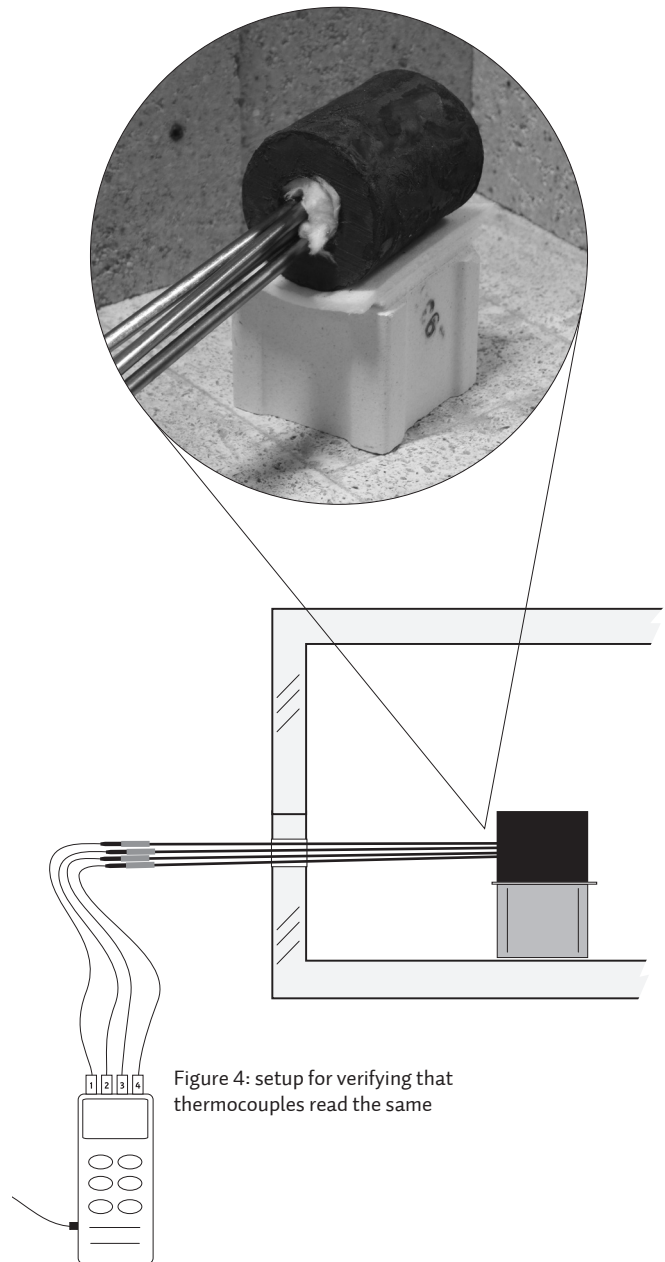

Figure 4: setup for verifying that thermocouples read the same
- Label TC & extension wire sets with the number of the input they are plugged into. (Figure 4)